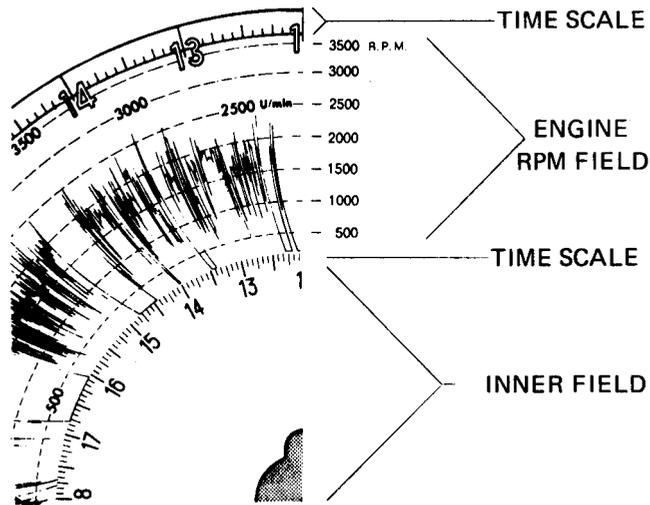

Figure 20-6. Engine RPM Recordings
(4) Engine RPM field. The engine rpm is recorded on the blue side of the chart. The readings are recorded at the same time as the readings on the green side. The engine rpm field (Fig. 20-6) is divided by seven circles. Each circle is equal to 500 rpm. The base line is recorded just above the inside time scale and the 3500 rpm circle is just below the outside time scale. The base line is recorded as soon as the chart is put into the tachograph and is only recorded with the engine off. The rpm recording is made up of vertical arcs. The circle at the top of the arcs shows the top rpm of the engine at the time shown on the time scale.